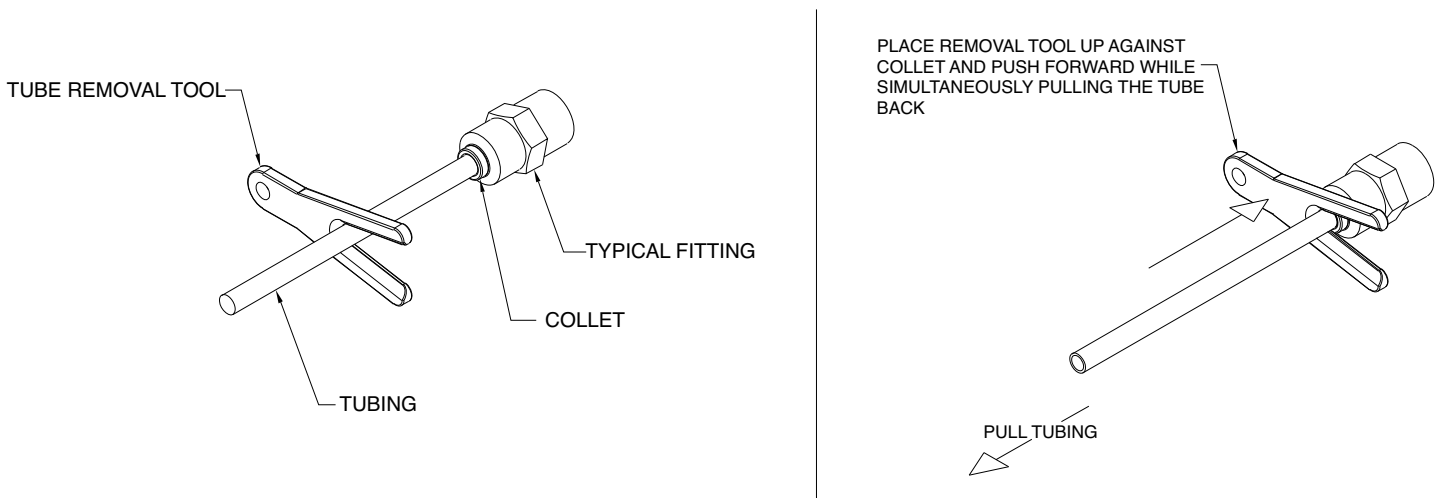

Figure 5-2. Tubing Removal
1. Using the tool provided (Figure 5-2), push the collet toward the body while pulling on the tubing to release the tube.